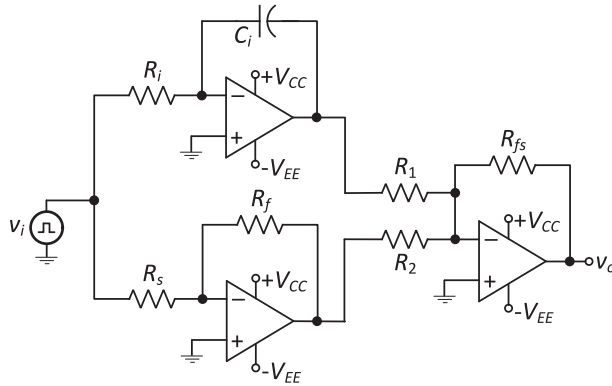

Figure 36.2 Op-amp implementation of the proportional-integral controller.
Proportional-Integral Control: The circuit implementation of the proportional-integral (PI) control using an operational amplifier is as shown in Figure 36.2. Assuming that the amplifier is configured to operate in the inverting mode, the output voltage of the controller is given by
1. Construct the circuit of the PI controller as shown in Figure 36.2. Enter the values of all the components obtained using the given specifications.
3. Connect a pulse voltage source at the inputs to the two op-amps as shown in Figure 36.2. Set time period = 10 ms, duty cycle/width = 0.5, initial voltage = 0 V, amplitude = 0.5 V. Let the rise time and fall time be equal to zero (optional).